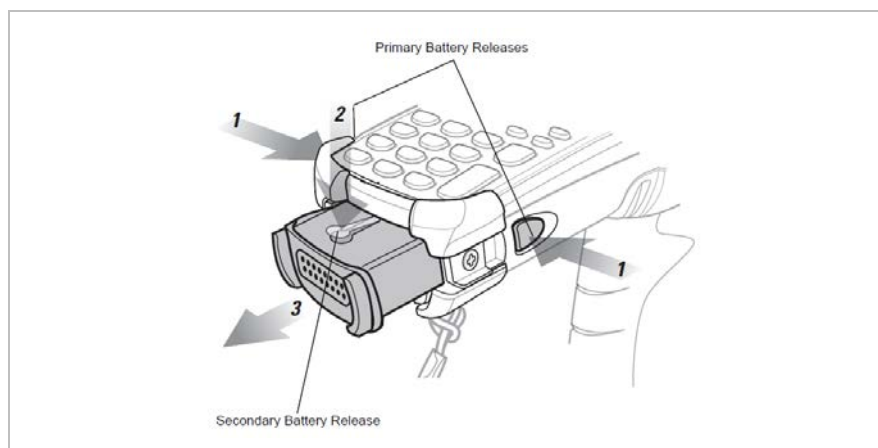

Figure 4-2: Removing the battery
- (1) Prior to removing the battery, press the red **Power** button. On Windows Mobile 6.5 devices, the **PowerKey Action** window appears. Tap **Safe Battery Swap**.
- (2) The Indicator LED Bar lights red.
- (3) When the Indicator LED turns off, press the primary battery releases. The battery partially ejects from the MC 9190^{ex}-NI as shown in *Figure 4-2: Removing the battery*.
- (4) Pause three to four seconds while the MC 9190^{ex}-NI performs battery removal shutdown.
- (5) Press the secondary battery release, on top of the battery, and slide the battery out of the MC 9190^{ex}-NI as shown in *Figure 4-2: Removing the battery*.